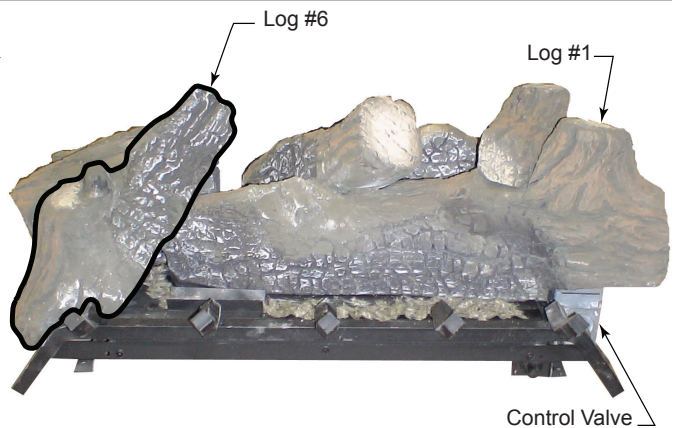

Figure 6 - Place Log #6
- Place log #6 on pilot end of burner by aligning the 'V' notch in bottom of log with the filler bracket surrounding the pilot. Place the rectangular notch in the bottom of the log onto the rectangular protrusion on the end of log #1. *Figure 6*